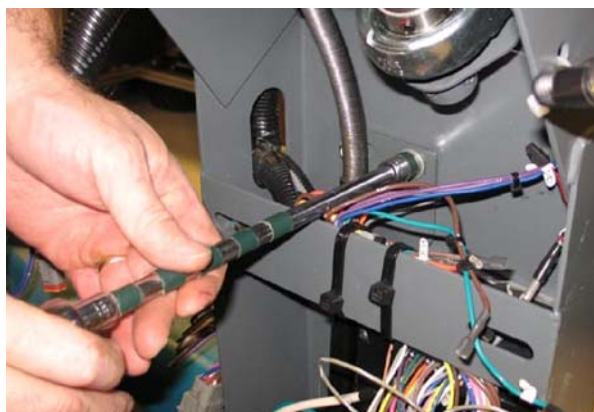

FIG. 49
26. Tighten the hardware holding the support bracket / flange bearing onto the steering channel (24 Nm / 18.5 ft lbs). Allow the support bracket / flange bearing to self-align on the steering shaft (1) as hardware is tightened. (Fig. 49)